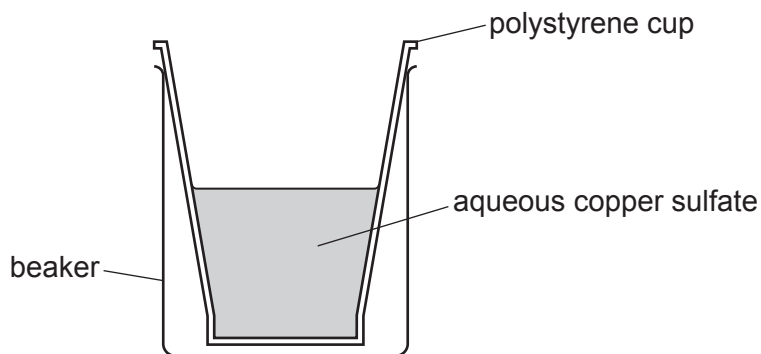

Fig. 3.1
- Use the measuring cylinder to add 25 cm³ of 1.00 M aqueous copper sulfate to the polystyrene cup as shown in Fig. 3.1.